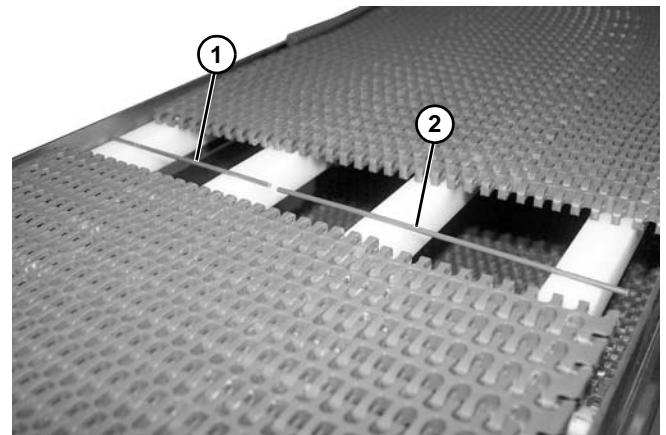

Figure 38
Depending upon the sequence of the previous belt rod installed, short (**Figure 38, item 1**) and long (**Figure 38, item 2**) rods could be either on the outside or inside of conveyor.
- Repeat on opposite end for remaining belt rod (**Figure 38, item 1**).